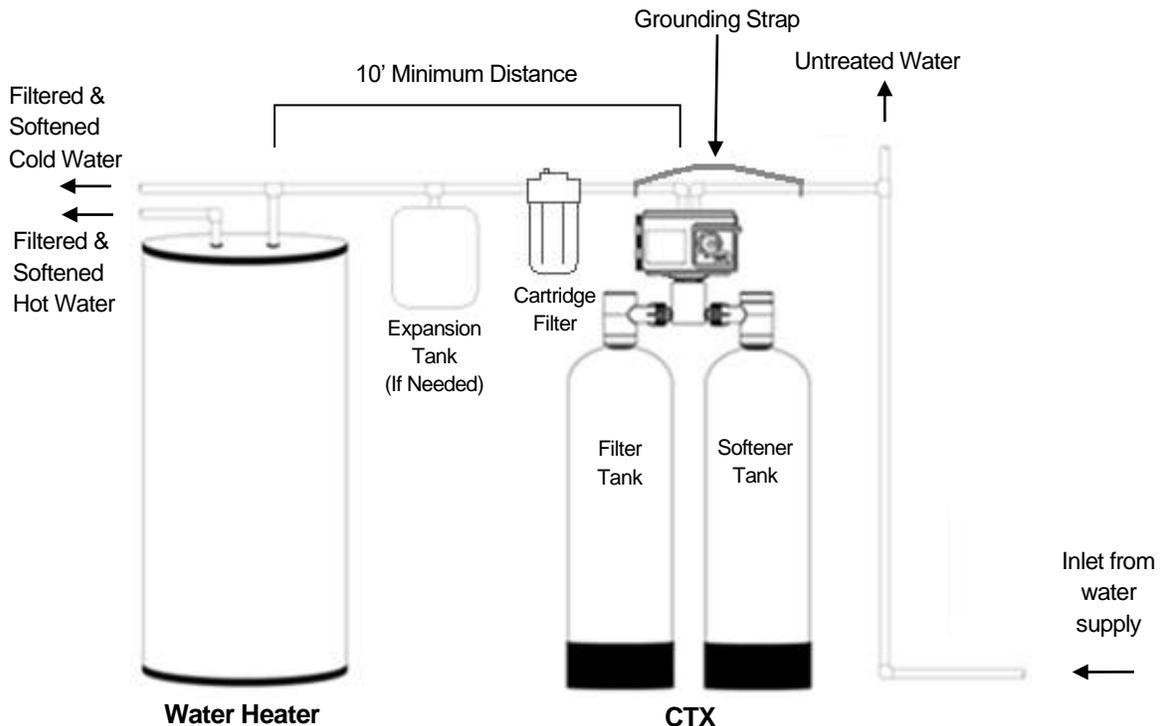

FIGURE 1: Typical Installation
- STEP 2:** Place filter tank (tank with media and fill port) on the **LEFT** side with the inlet and outlet pointing right. Place the softener tank on the **RIGHT** side with inlet and outlet pointing left (see Figure 1, Page 3).